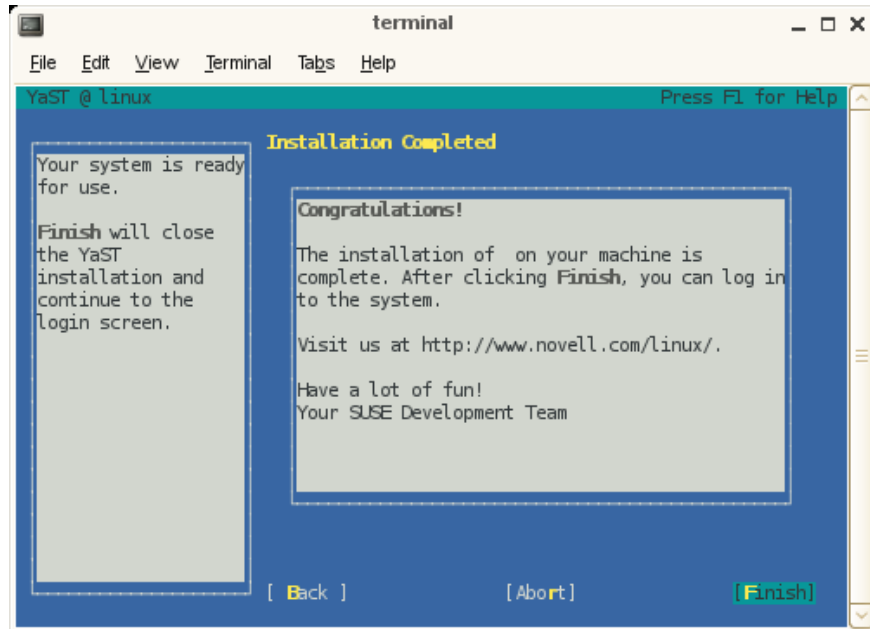

Figure 2-8 Installation Completed Screen
18. An **Installation Completed** screen appears, as show in Figure 2-8 on page 42. Click on the **Finish** button.